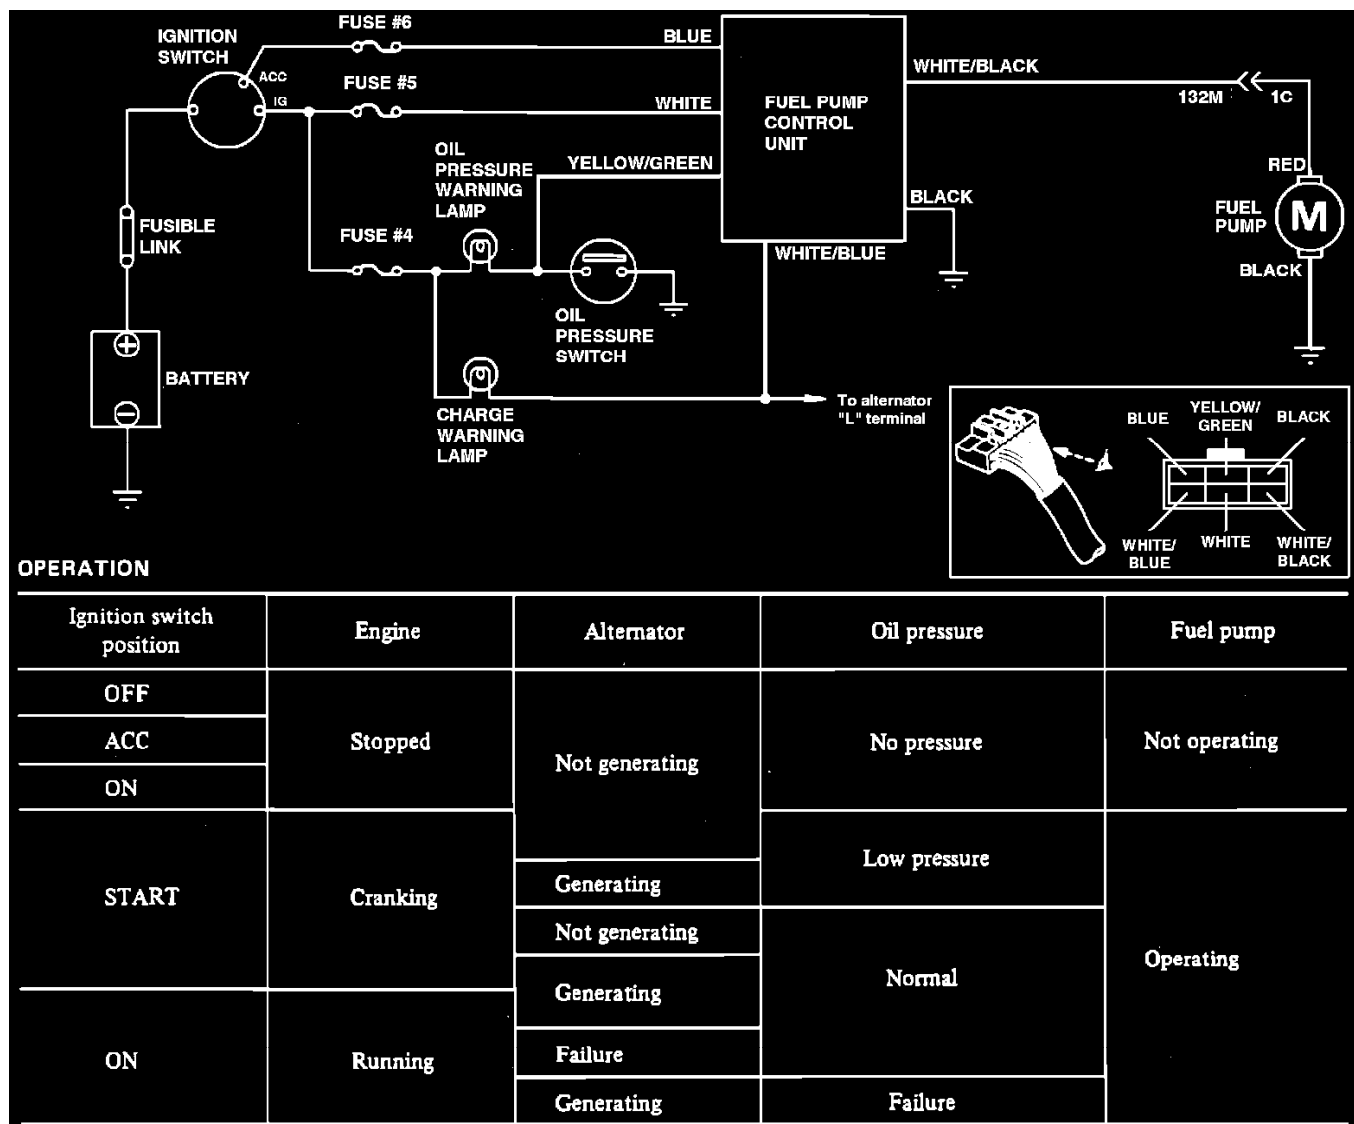

**Fig. 2 Ignition switch replacement**
3. Remove switch retaining screw from steering lock, **Fig. 2**.